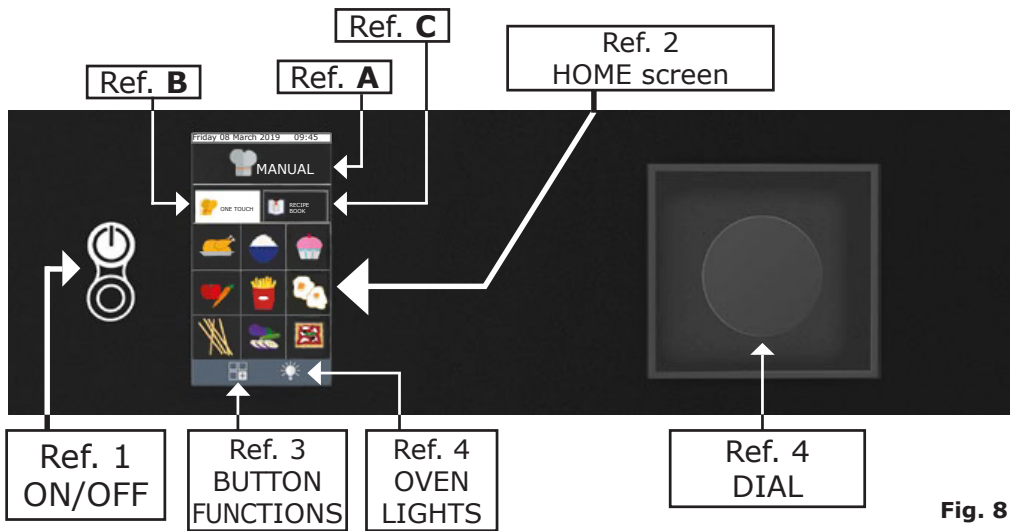

Fig. 8
Switch on the oven by pressing the "ON / OFF" key **Ref. 1 Fig.8.**
- By pressing the relevant key, the lights in the cooking chamber (**Fig.8-Ref.4**) turn on and if they have not already been turned off again by pressing the same key, will automatically turn off after 45 seconds.